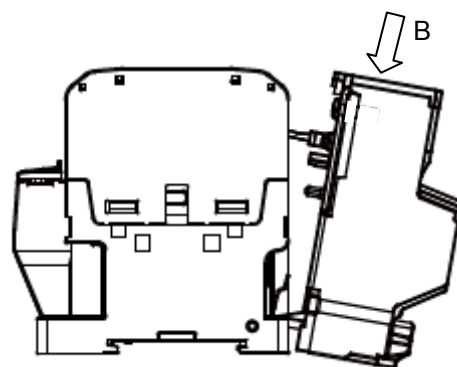

Fig. 2
3. Press in the thermal overload relay from the B direction, and insert the thermal overload relay's notch A to the magnetic contactor's indent. (Fig. 2)